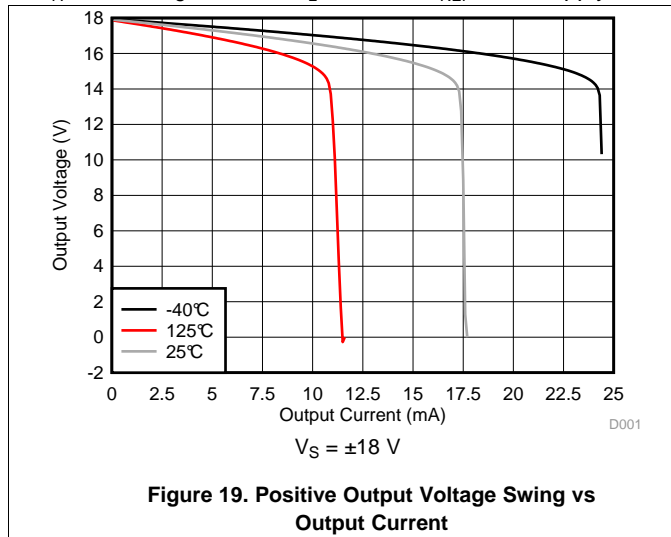
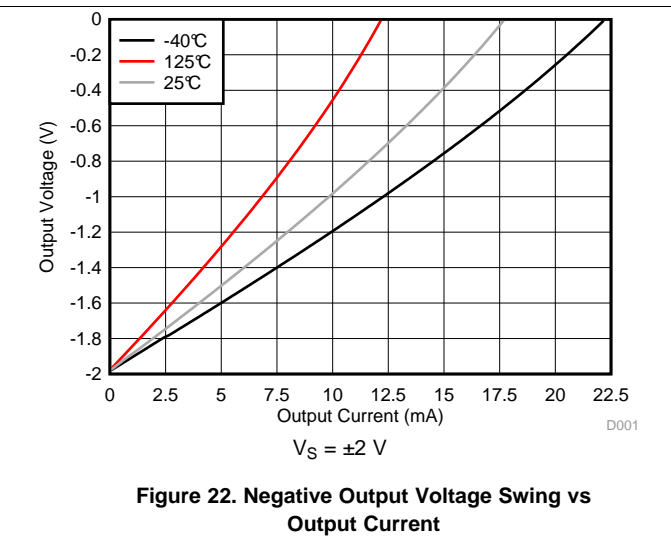

Figure 19. Positive Output Voltage Swing vs Output Current
Figure 22. Negative Output Voltage Swing vs Output Current
(5) See *Typical Characteristics* curves, *Output Voltage Swing vs Output Current* (Figure 19 to Figure 22).
The INA188 can be used on single power supplies of 4 V to 36 V. Use the output REF pin to level shift the internal output voltage into a linear operating condition. Ideally, connecting the REF pin to a potential that is mid-supply avoids saturating the output of the input amplifiers ( $A_1$  and  $A_2$ ). Actual output voltage swing is limited to 250 mV above ground when the load is referred to ground. The typical characteristic curves, *Output Voltage Swing vs Output Current* (Figure 19 to Figure 22) illustrates how the output voltage swing varies with output current. See the Driving the Reference Pin section for information on how to adequately drive the reference pin.